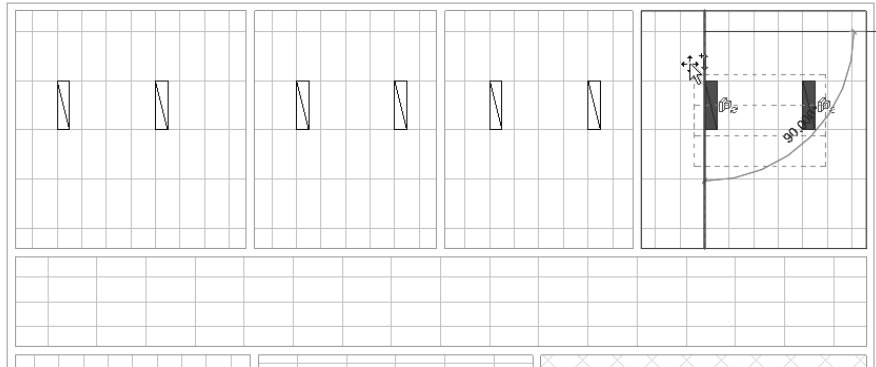

Figure 2–83
6. Using the ceiling grids, select inside the other rooms on the same side of the hall to copy the lighting fixtures into them in approximately the same position, as shown in Figure 2–83.